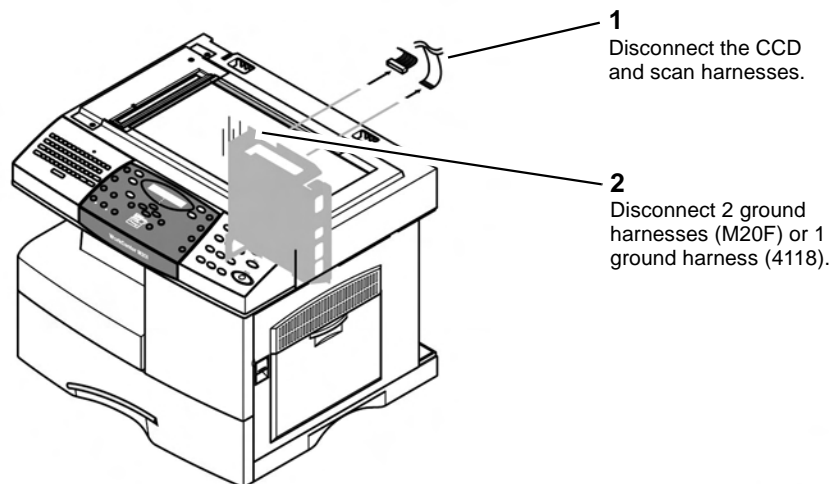

Figure 1 Harness removal
3. Disconnect the CCD and scan harnesses from the main PBA. Disconnect 2 ground harnesses (M20F) or 1 ground harness (4118) from the shield P main lower, Figure 1.